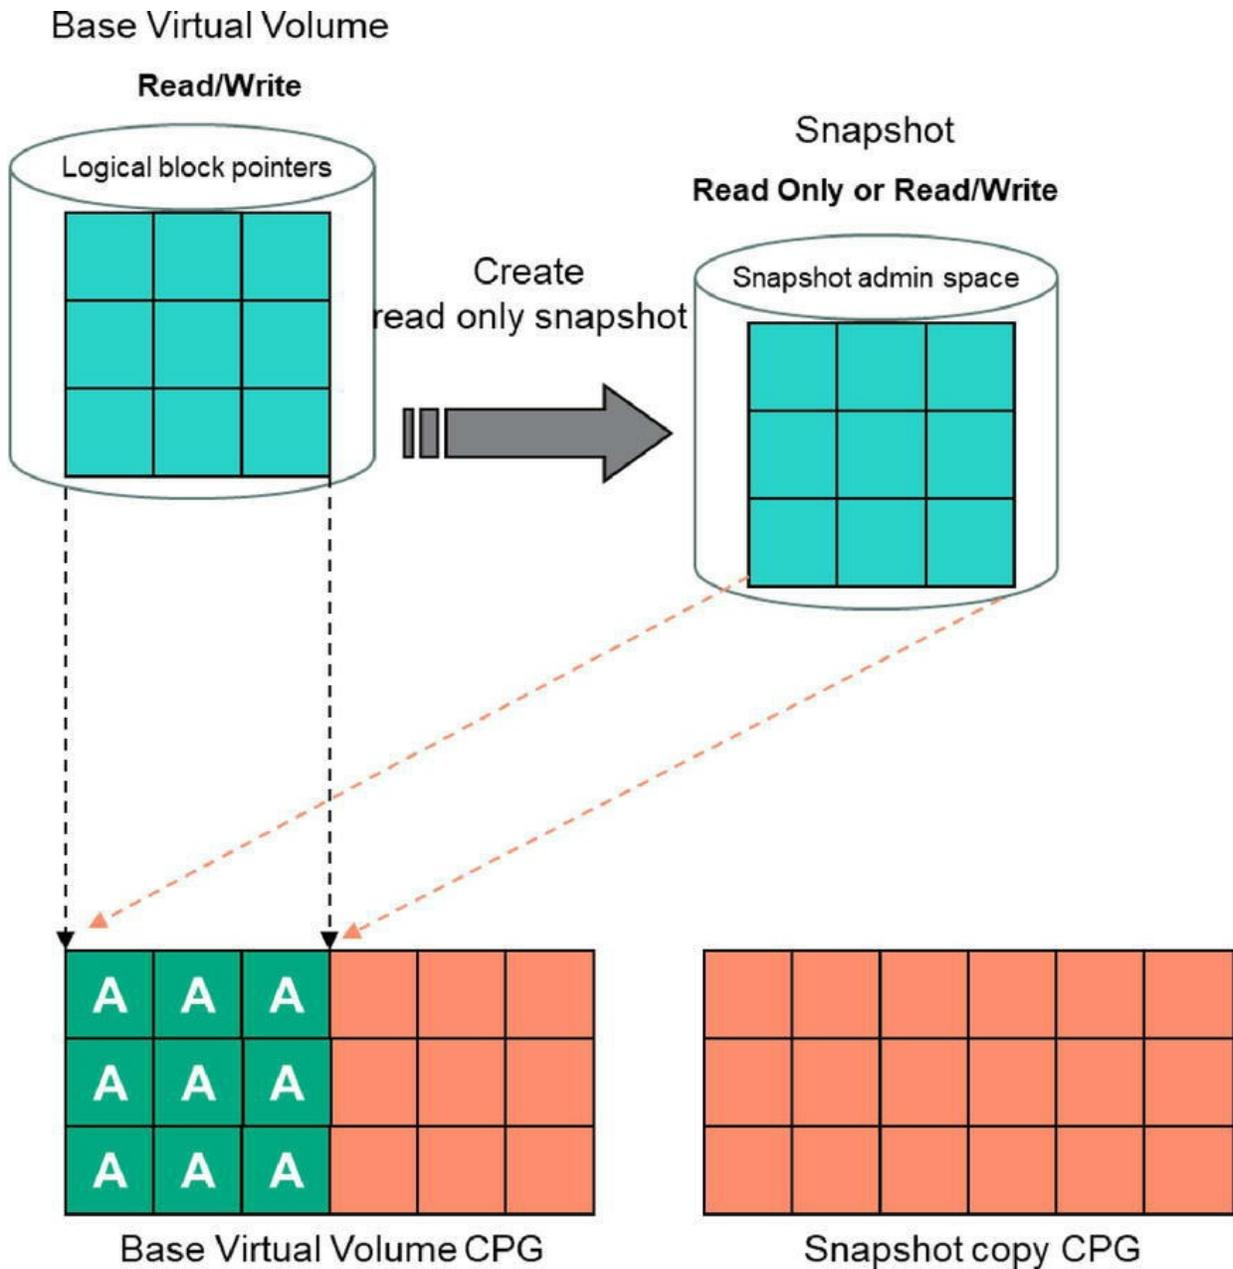

Figure 5-74 The snapshot points to all the original data
All host writes to the virtual logical unit number (VLUN), created from the virtual volume, are logged. The read-only snapshot is created by writing a mapping structure to the parent's Snapshot Administration (SA) logical disk (LD), as indicated in Figure 5-74. This mapping structure points to all the data that resides in the user LD (user area of the parent source volume).